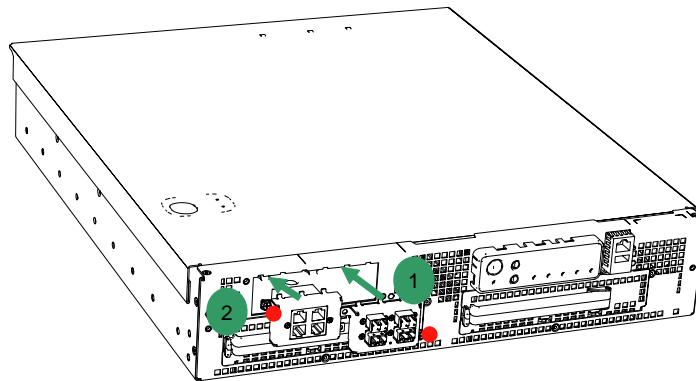

Figure 2-8: Interconnect Port Bays
As shown by the red dots in Figure 2-8, each interconnect port panel is secured with a screw. The interconnect port panel shown installed in the left bay (2) is an Ethernet RJ45 interconnect port panel, while the interconnect port panel shown installed in the right bay (1) is an Ethernet fiber interconnect port panel. The Ethernet RJ45 interconnect port panel and the Ethernet fiber interconnect port panel can be installed in either interconnect port panel bay.